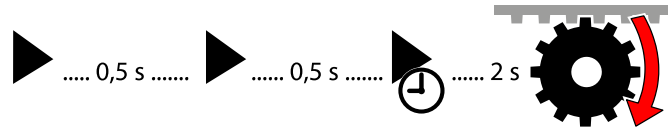

Fig. 100: Limit position setting – Setting right limit position
5. Press the following key combination to save the right limit position (see Fig. 100):